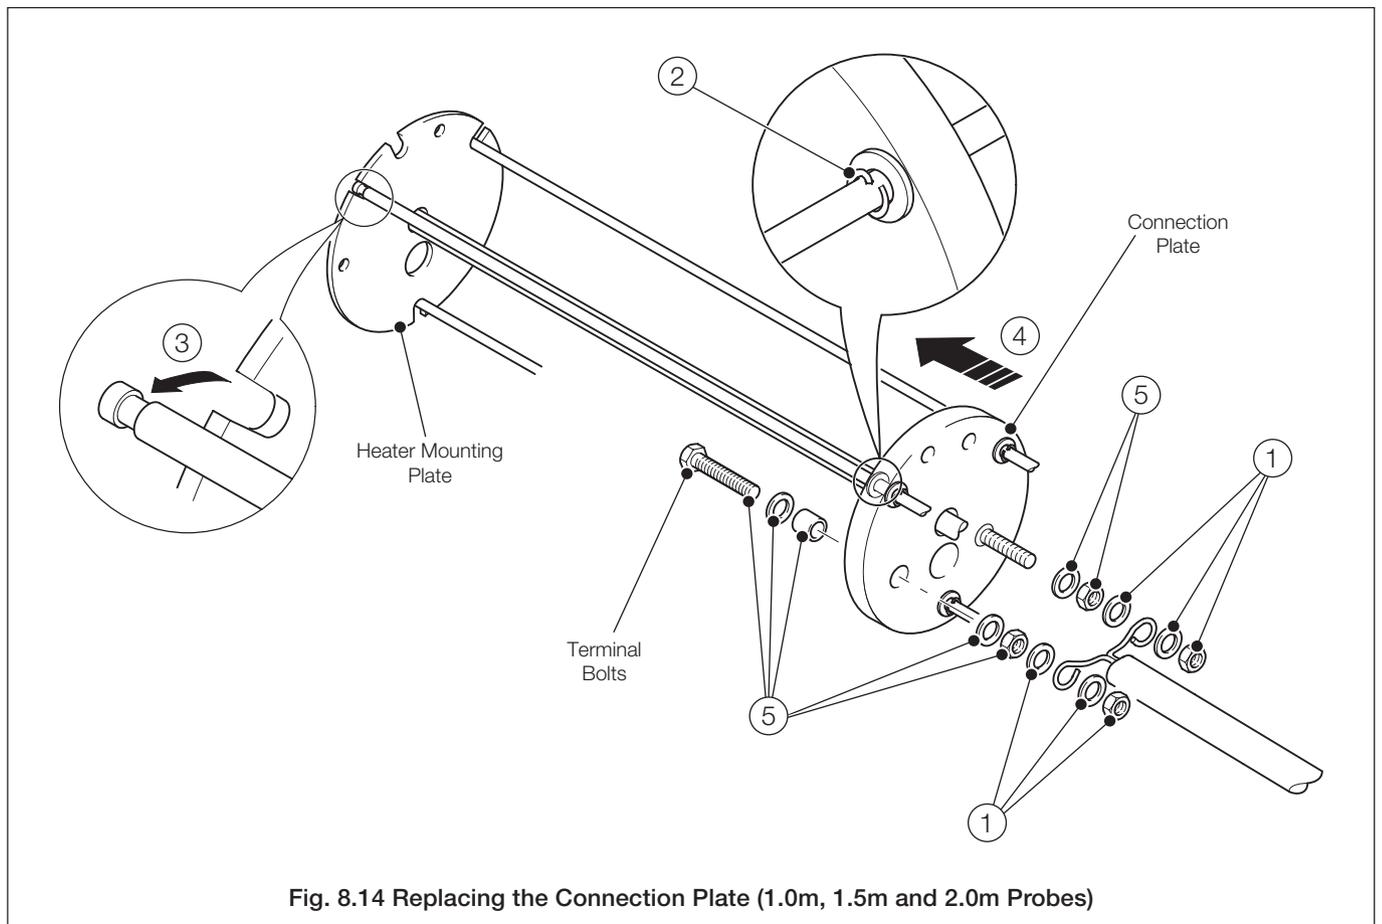

Fig. 8.14 Replacing the Connection Plate (1.0m, 1.5m and 2.0m Probes)
Caution. Ensure that the heater leads are routed as shown in Fig. 8.14 to prevent them shorting and/or interfering with the spring-loaded operation of the thermocouple/electrode lead assembly. Leave sufficient slack in the heater leads must to allow for expansion at the probe's operating temperature.
8.14 Replacing the Connection Plate (1.0m, 1.5m and 2.0m Probes) – Figs. 8.14 and 8.15